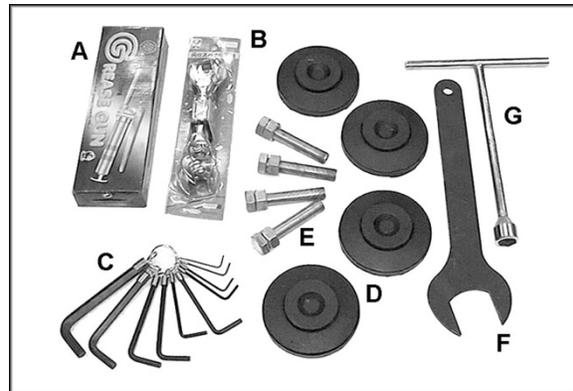

Figure 2
- 1 Toolbox containing (shown in Figure 2):